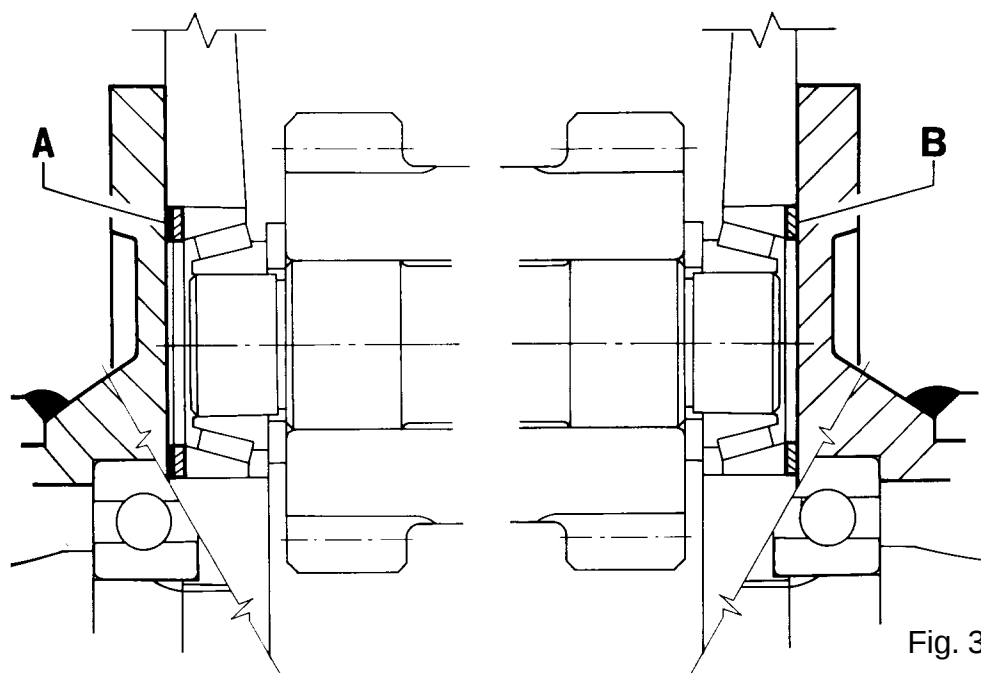

Fig. 3
- 5) The ring gear is too far away from the pinion and works on the crest of the tooth: in this case, remove spacers **A** (fig. 3) and then add them to an equal extent on the opposite part.
- 6) The ring gear is too near the pinion and works on the bottom of the tooth: in this case, remove spacers **B** (fig. 3) and then add them to an equal extent on the opposite part.